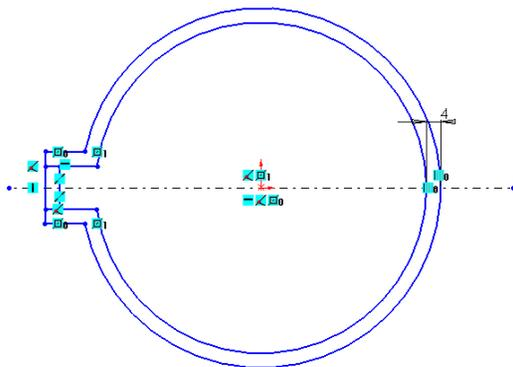

Figure 3-71 Sketch after extending the lines
- f. Complete the final editing of the sketch using the **Extend Entities** and **Trim Entities** tools, refer to Figures 3-71 and 3-72.
4. Similarly, extend the upper horizontal line of the inner sketch. The sketch after extending the lines is shown in Figure 3-71.